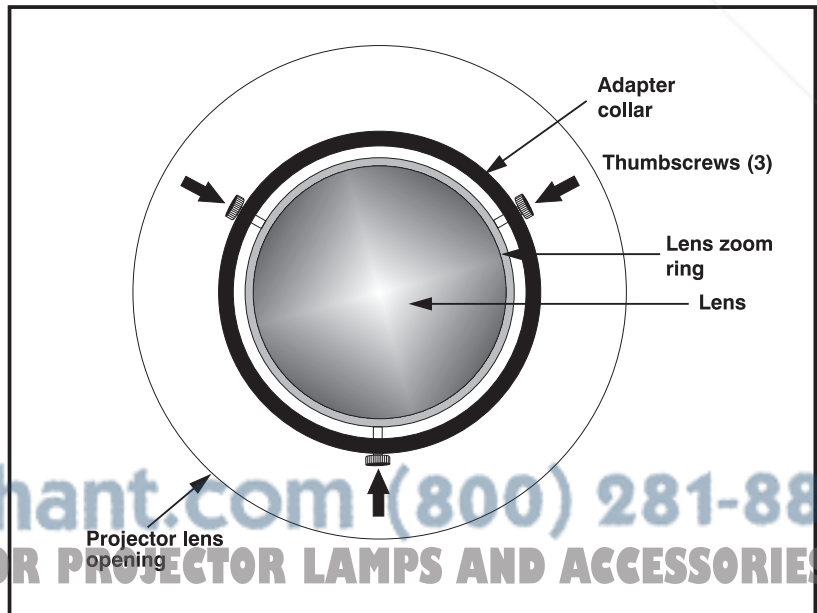

Figure 4-14. Tighten 3 thumbscrews equally
- f) Turn off and unplug the projector. Gradually tighten the 3 thumbscrews equally, taking care to keep the adapter collar and lens centered with one another (Figure 4-14). The adapter collar should be securely attached to the lens zoom ring when you are done.